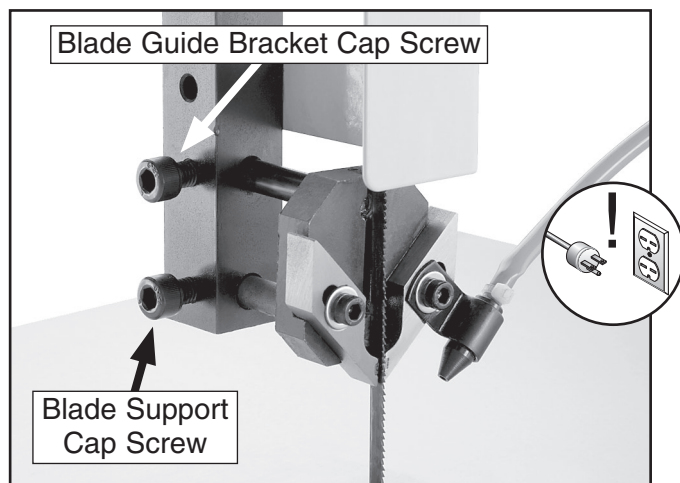

Figure 26. Upper blade guides and bracket.
3. Use a 6mm hex wrench to loosen the cap screws that secure the blade guide bracket and blade support (see **Figures 26–27**).